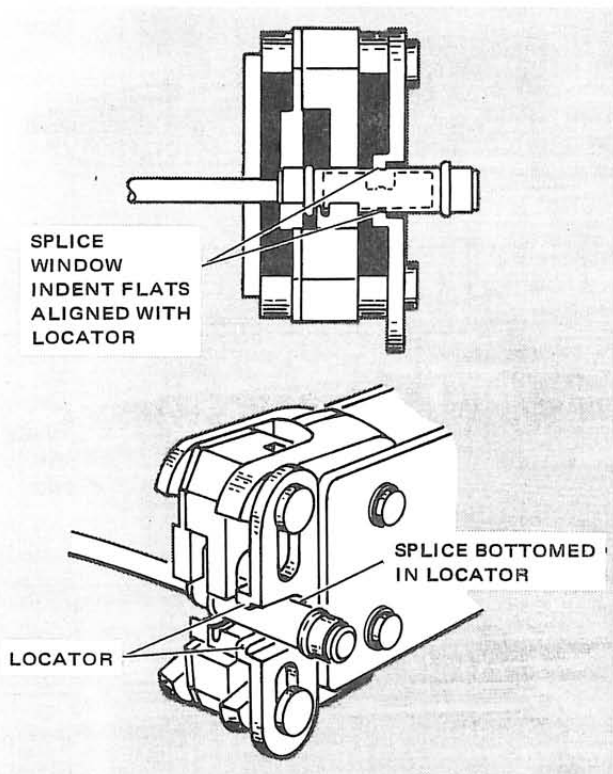

Figure 3
- (f) Align splice window indent flats with tool locator and push splice into locator until bottomed. See Figure 3.